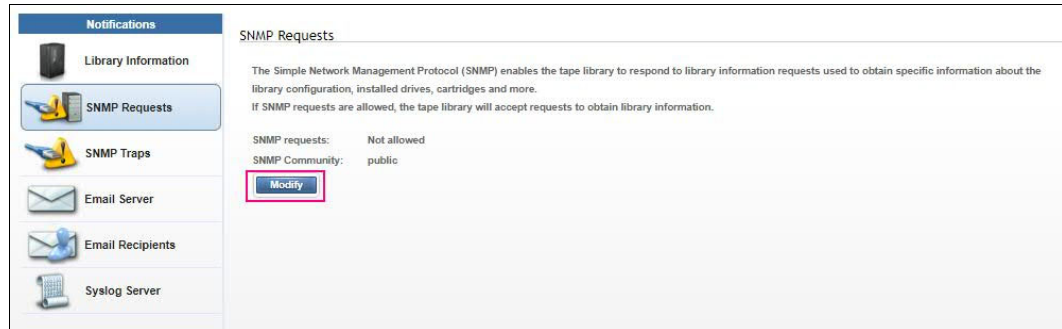
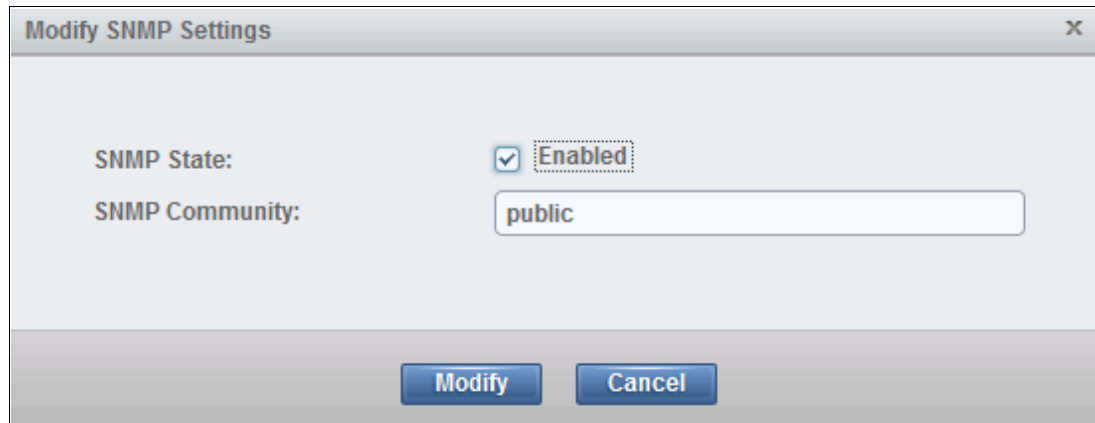

Figure 4-25 SNMP Requests
Figure 4-26 Modify SNMP Settings window
2. Under the Notifications menu, select **SNMP Requests** to display the current settings, as shown in Figure 4-25.
3. To change the setting, select **Modify**, as shown in Figure 4-25, which opens the Modify SNMP Settings window, as shown in Figure 4-26.
To view or change the community name that is associated with the TS4500 tape library, click **Modify** in the Modify SNMP Settings page (see Figure 4-26 on page 217).